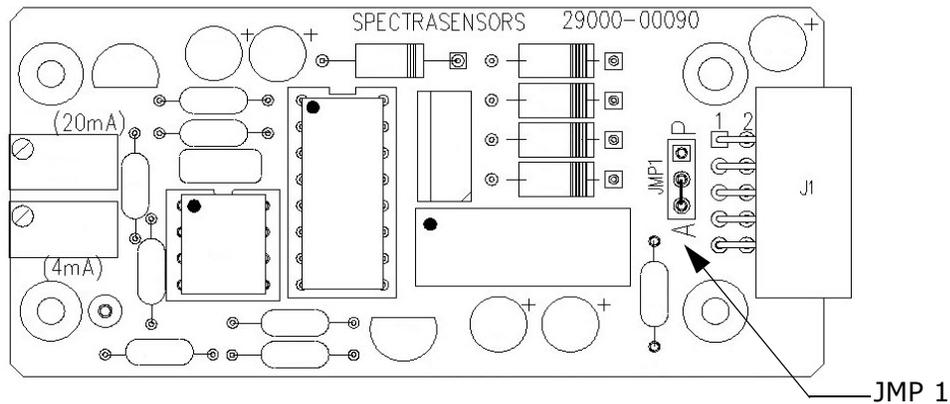

Figure 3-7 Analyzer 4-20 mA board
3. Remove the jumper (JMP1), shown in Figure 3-7, connecting the center hole to point "A."
2. Adjust the potentiometers on the end of the board to change the zero and span readings. Refer to Figure 3-7 on page 3-15.